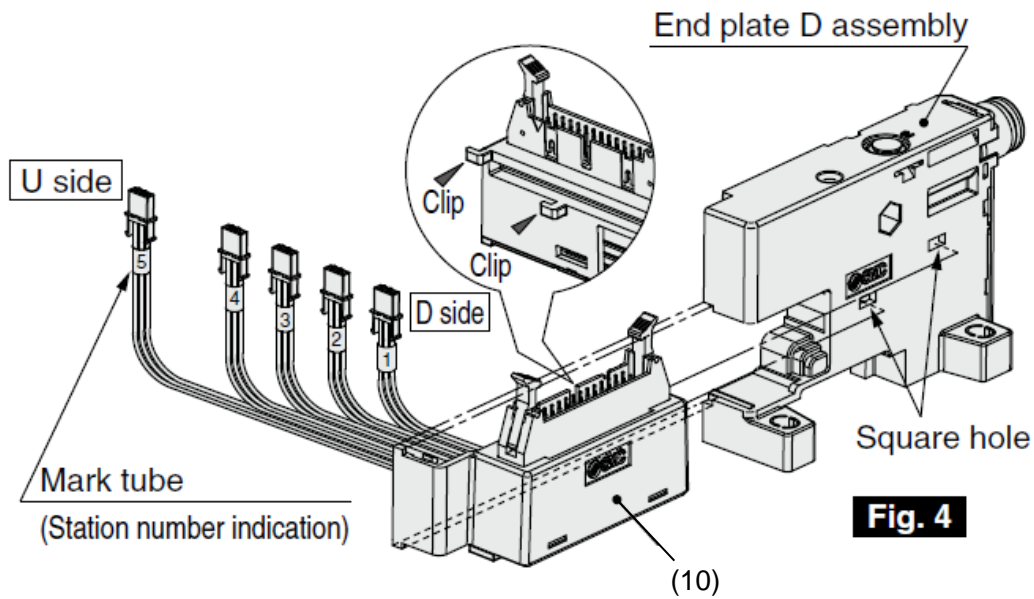

Fig. 4
- 7) Remove the connector housing assembly from the end plate D assembly. (Refer to Fig.4)
- 8) Mount the connector housing assembly for extra station(s) to the end plate D assembly. (Refer to Fig.4)